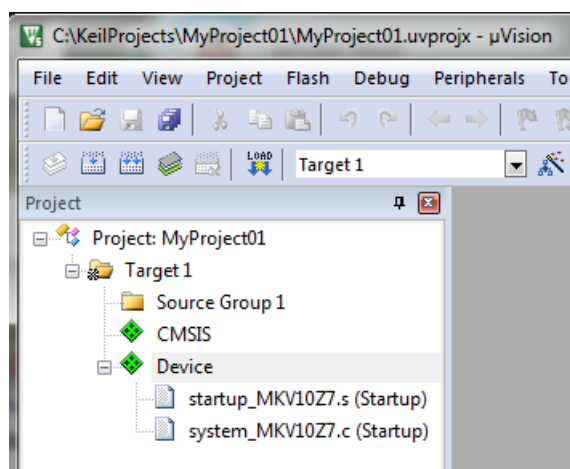

Figure 1-29. Project
10. Click OK, and a new project is created. The new project is now visible in the left-hand part of Keil µVision. See Figure 1-29.